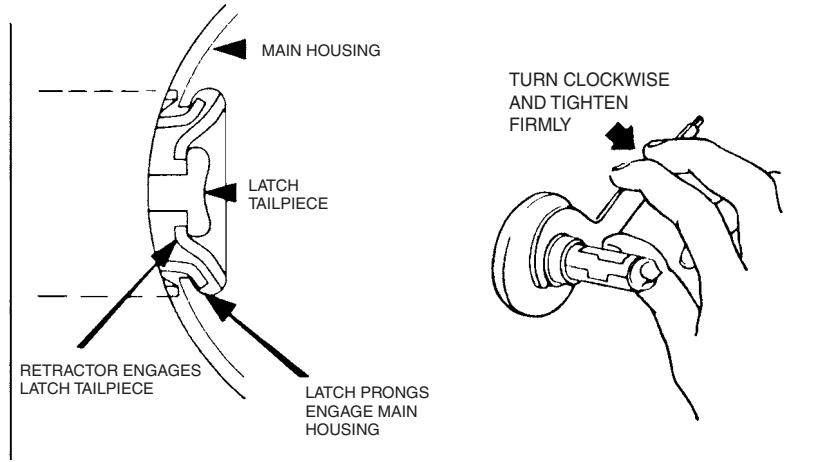

Figure 19.48 Electrified key-in-knob lock installation, Step 5.
5. Next, install the main unit (Fig. 19.47). The main housing must engage with the latch prongs and retractor with the latch tailpiece as shown in Fig. 19.48.